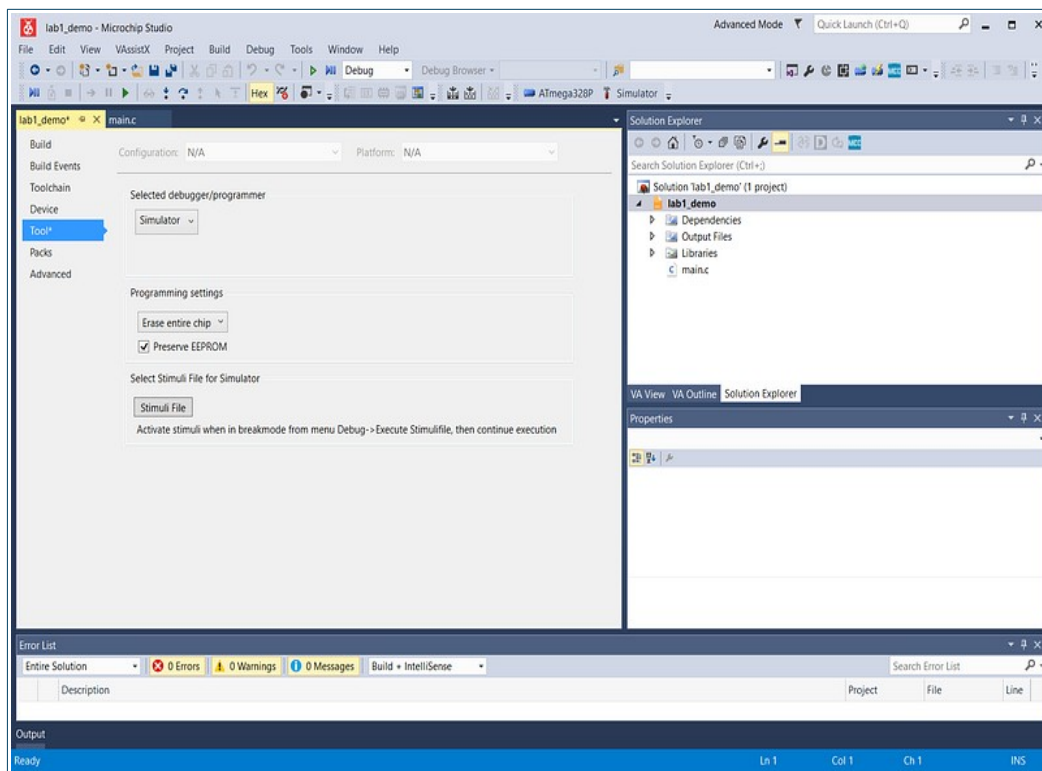

Figure 5: Selecting the built-in simulator for debugging
- 2.2 Ensure that the built-in simulator is selected as the debugger (see **Figure 5**).